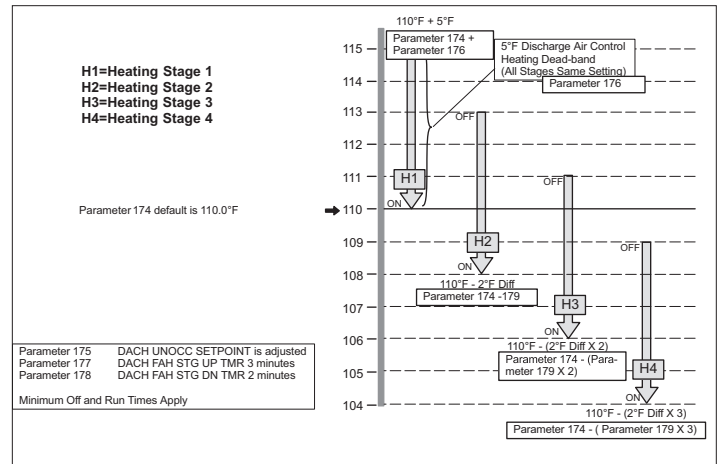

Figure 21. Discharge Air Control Heating Stages - Default Values Shown
- Refer to “Figure 21. Discharge Air Control Heating Stages - Default Values Shown” for Discharge Air Control Heating heating stages.